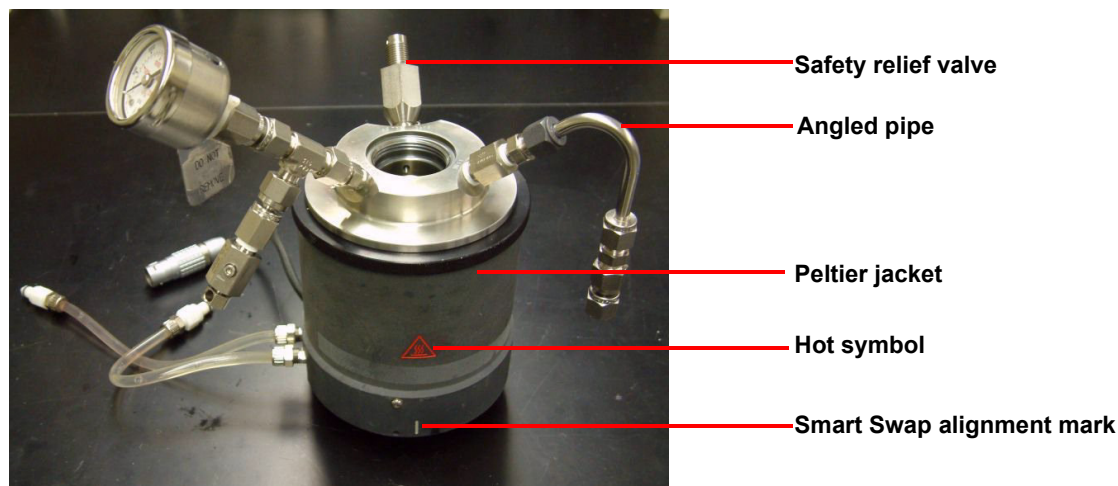

Figure 17 Pressure Cell cup installed in Peltier jacket.
- 4 Connect angled high-pressure pipe to the cell inlet port, ensuring that the straight part of the pipe is vertical, as shown in Figure 17. Tighten the compression connector as directed in the NOTE on page 20.